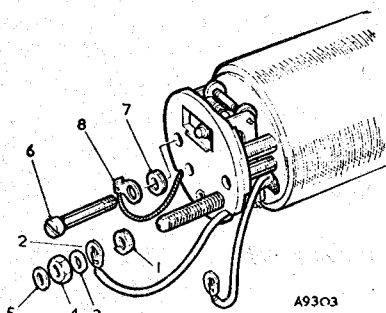

Fig. 4. Attaching the pedestal to the coil housing
3. Assemble the 2 B.A. spring washer (1) (Fig. 4), and put the terminal stud through the 2 B.A. terminal tag (2), then
4. Assemble the pedestal to the coil housing (Fig. 4) by fitting the two 2 B.A. pedestal screws (6), ensuring that the spring washer (7) on the left-hand screw (9 o'clock position) is between the pedestal and the earthing tag (8). When a condenser is fitted, its wire clip base is placed under the earthing tag and the spring washer is dispensed with.
5. Tighten the screws, taking care to prevent the earthing tag (8) from turning, as this will strain or break the earthing flex. Do not overtighten the screws or the pedestal will crack.